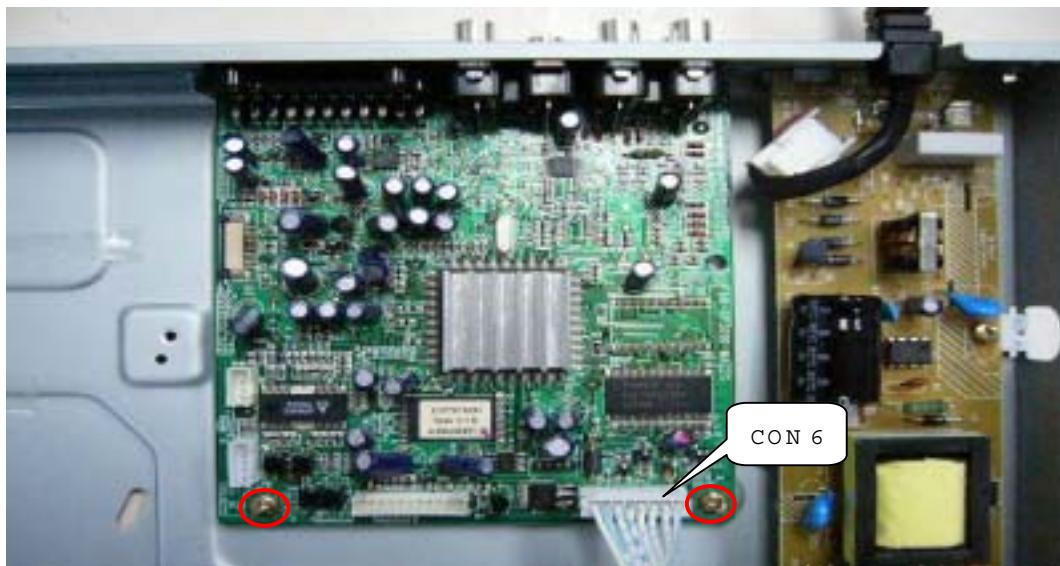

Figure 7
Step 6: Dismantling Main Board, first disconnect the connector, and then remove the relative screws, (Figure 7)